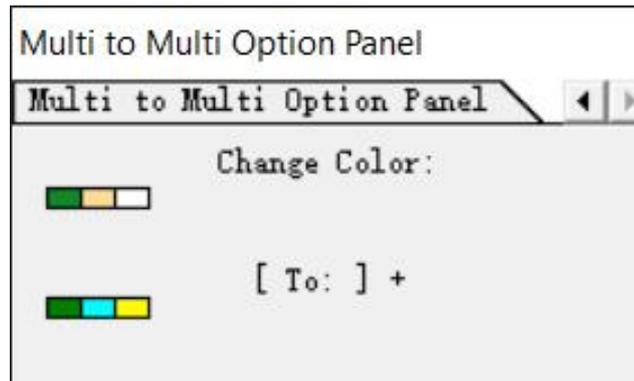

Figure 4-136
2.  Select Multi to Multi to display the Multi to Multi Option Panel (Figure 4-136):